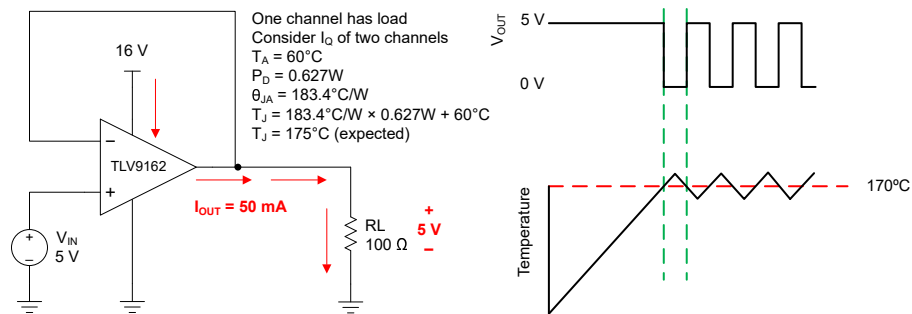

图 7-4. Thermal Protection
The internal power dissipation of any amplifier causes its internal (junction) temperature to rise. This phenomenon is called *self heating*. The absolute maximum junction temperature of the TLV916x-Q1 is 150°C. Exceeding this temperature causes damage to the device. The TLV916x-Q1 has a thermal protection feature that reduces damage from self heating. The protection works by monitoring the temperature of the device and turning off the op amp output drive for temperatures above 170°C. 图 7-4 shows an application example for the TLV9162-Q1 that has significant self heating because of its power dissipation (0.627 W). In this example, both channels have a quiescent power dissipation while one of the channels has a significant load. Thermal calculations indicate that for an ambient temperature of 60°C, the device junction temperature reaches 175°C. The actual device, however, turns off the output drive to recover towards a safe junction temperature. 图 7-4 shows how the circuit behaves during thermal protection. During normal operation, the device acts as a buffer so the output is 5 V. When self heating causes the device junction temperature to increase above the internal limit, the thermal protection forces the output to a high-impedance state and the output is pulled to ground through resistor R_L . If the condition that caused excessive power dissipation is not removed, the amplifier will oscillate between a shutdown and enabled state until the output fault is corrected. Please note that thermal performance can vary greatly depending on the package selected and the PCB layout design. This example uses the thermal performance of the TSSOP (8) package.